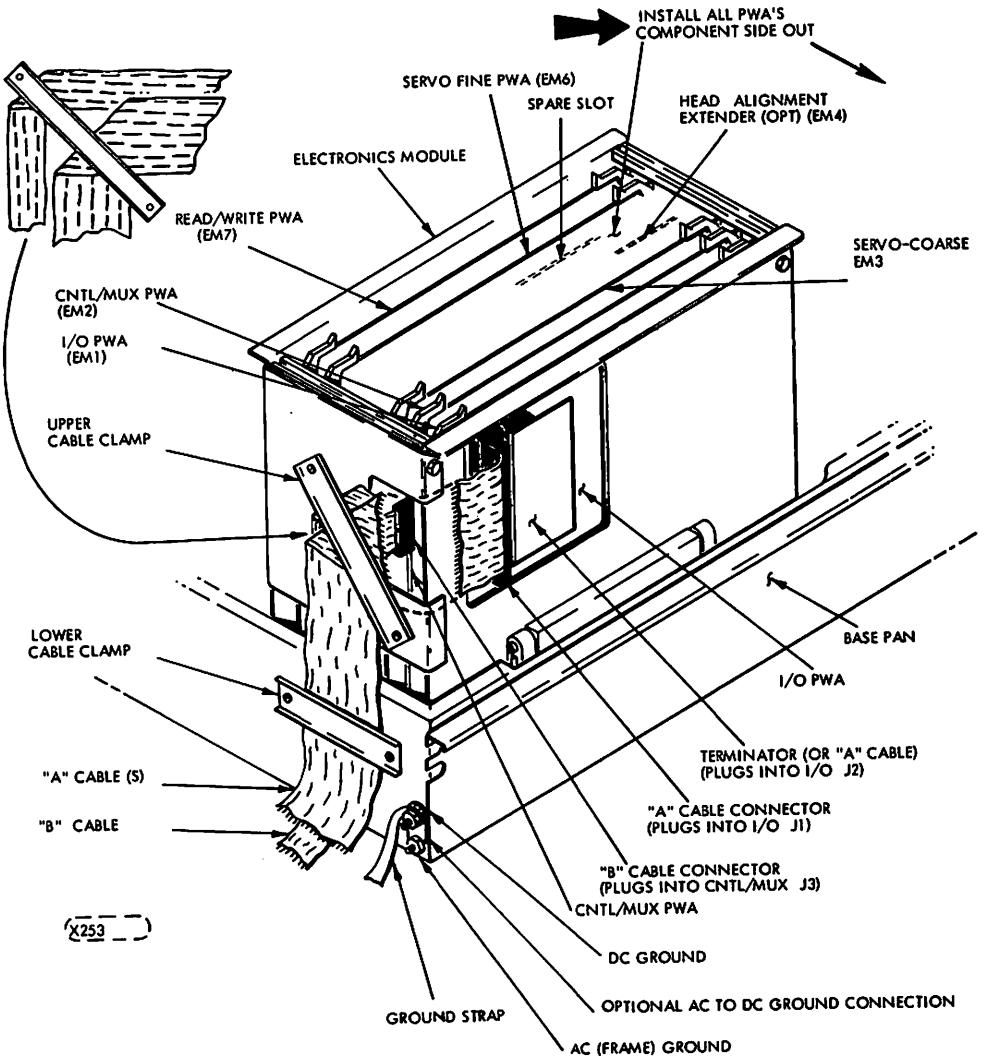

FIGURE 6-1A. I/O CABLE INSTALLATION AND PWA NAMES/LOCATIONS
Procedures for removal and replacement for maintenance purposes are given in section 6.7. Table 6-3 lists the removal and replacement procedures found in section 6.7. Figure 6-1a illustrates the locations of the Printed Wiring Assemblies.
3. Using the DC ground terminal at the rear of the base pan (see Figure 6-1a) as a reference point, check the DC voltages at points shown in Figure 6-6.